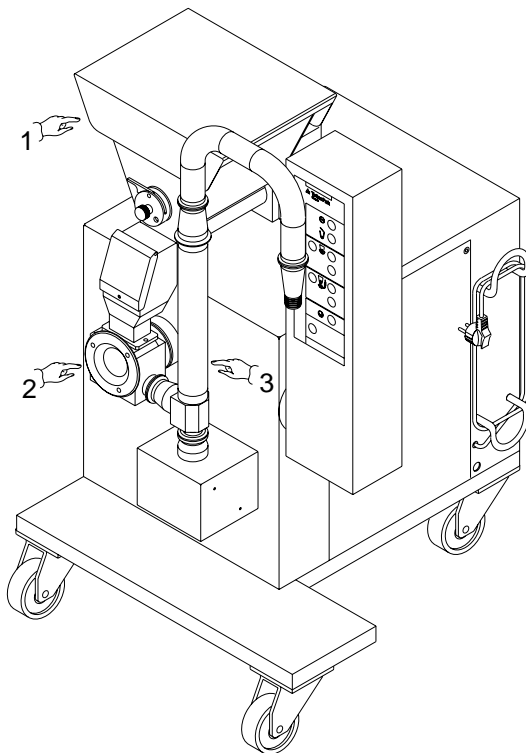

Fig. 3.1
2. A pump unit, consisting of a vane pump (*Pos.2, Fig.3.1*) which serves to feed the ingredients into the flow of ice-cream coming from the continuous freezer.
3. An in-line mixer (*Pos.3, Fig.3.1*), consisting of a shaft with angled blades positioned inside the section of pipe downstream of the pump unit. This unit serves to provide intensive mixing of the product with the ice-cream before it goes on to the filler machine.